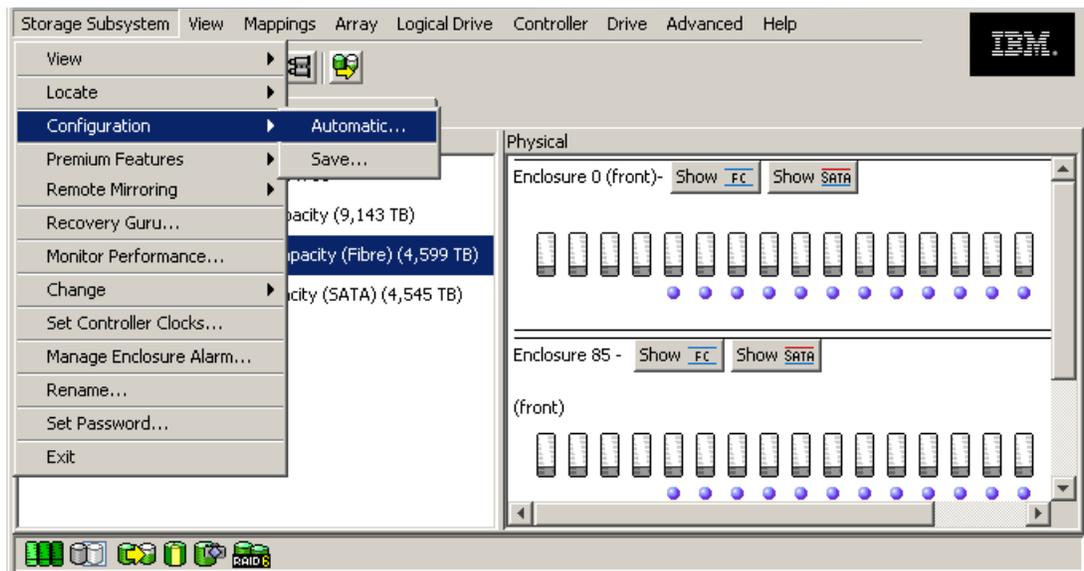

Figure 5-41 Automatic configuration
1. Select **Storage Subsystem** → **Configuration** → **Automatic**, as seen in Figure 5-41.